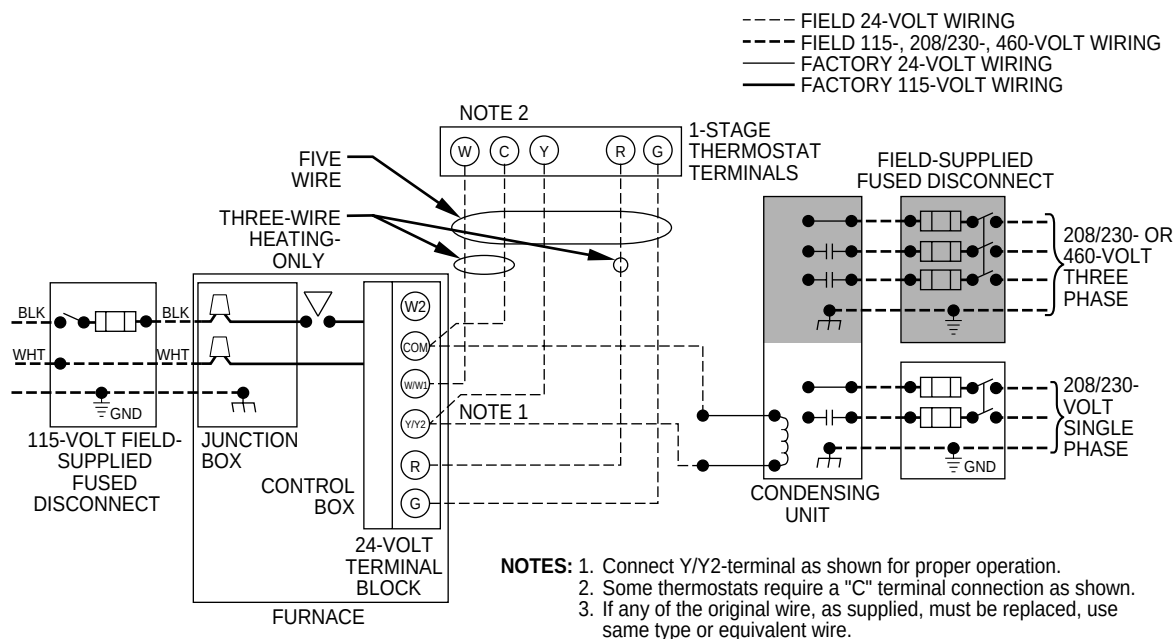
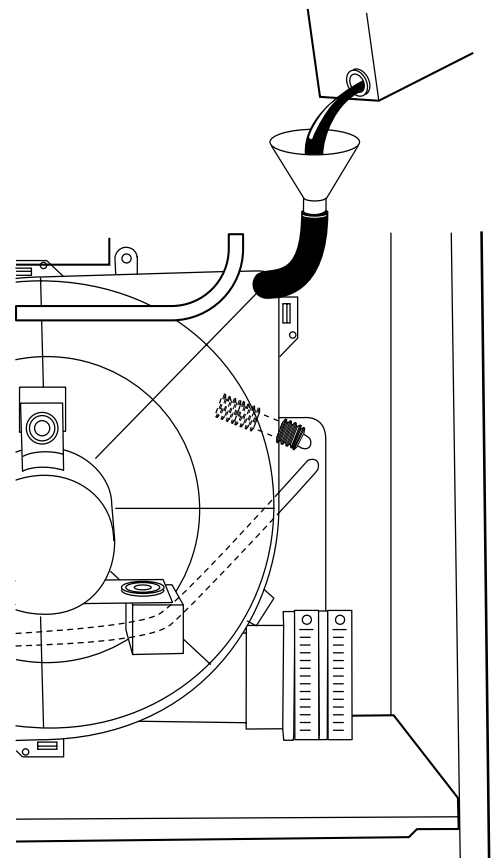

Fig. 12—Field Wiring
Fig. 16—Funnel in Drain and Antifreeze Running Through Trap
The electrical ground and polarity for 115-v wiring must be maintained properly. Refer to Fig. 12 for field wiring information and to Fig. 16 for unit wiring information.
5. Insert funnel in tube and pour one quart of antifreeze, propylene glycol (RV, swimming pool antifreeze, or equivalent) into funnel/tube until it is visible at point where condensate enters open drain. (See Fig. 16.)
See Fig. 12, 13, and 18 for Wiring Diagram